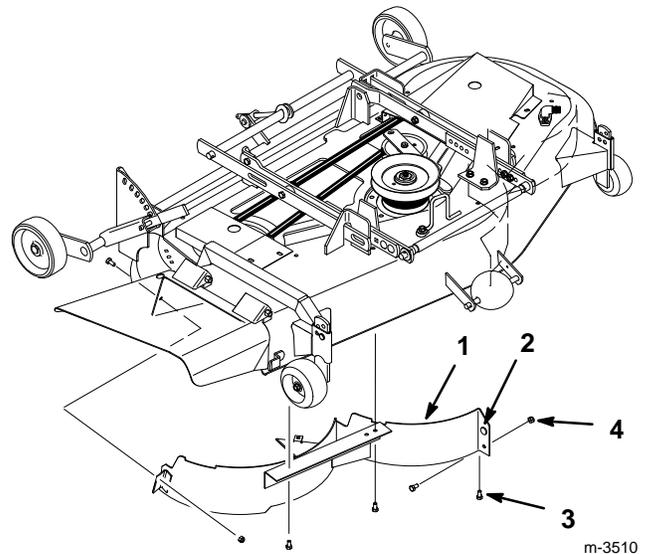

Figure 24
2. Remove lock nuts from top and discharge side and center flange of mower (Fig. 24). Slide baffle into discharge opening and raise into mower so pin on center flange engages left baffle.
3. Secure with previously removed 5/16–5/8” (16 mm) bolts and 5/16” lock nuts in top, discharge side and center flange holes of baffle (Fig. 24).